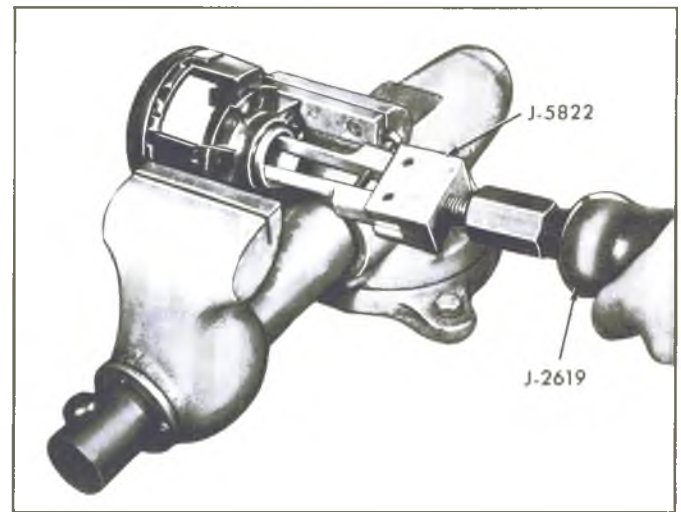

Fig. 93—Removing Bearing Race
- b. Using Puller J-5822 and Slide Hammer J-2619 pull the bearing races from the housing (fig. 93).